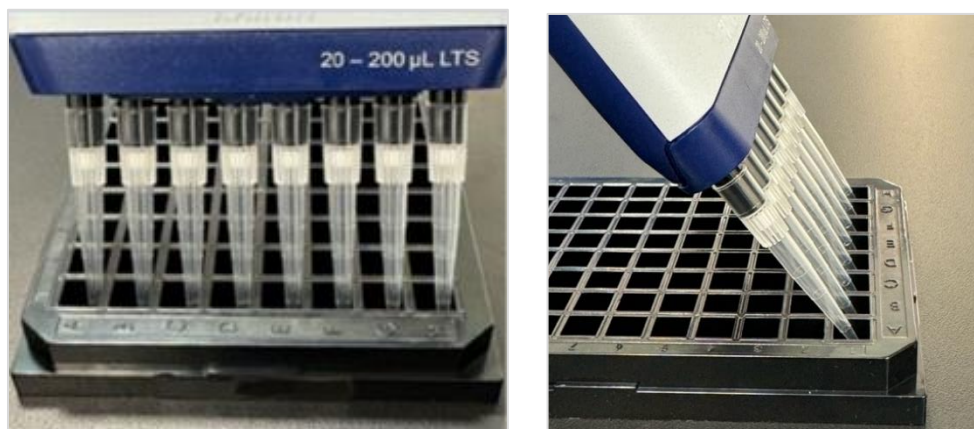

Figure 4. The described method of pipetting out of the Quantum Barcoding Plate wells. Always ensure the liquid is removed from the same corner of a well.
5. Remove the Wetting Buffer from each well by pipetting from a selected corner of the wells as shown in Figure 4.
7. Remove the Hyb Buffer A from the 16 wells by aspirating the liquid from a selected corner of the well as shown in Figure 4.